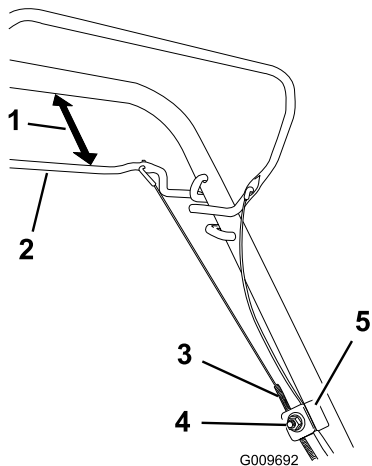

Figure 19
1. Loosen the cable-support nut (Figure 19).
2. Hold the self-propel-drive bar 25 to 38 mm (1 to 1-1/2 inches) from the handle (Figure 19).
3. Pull down the cable jacket (toward the machine) until there is no slack in the cable (Figure 19).